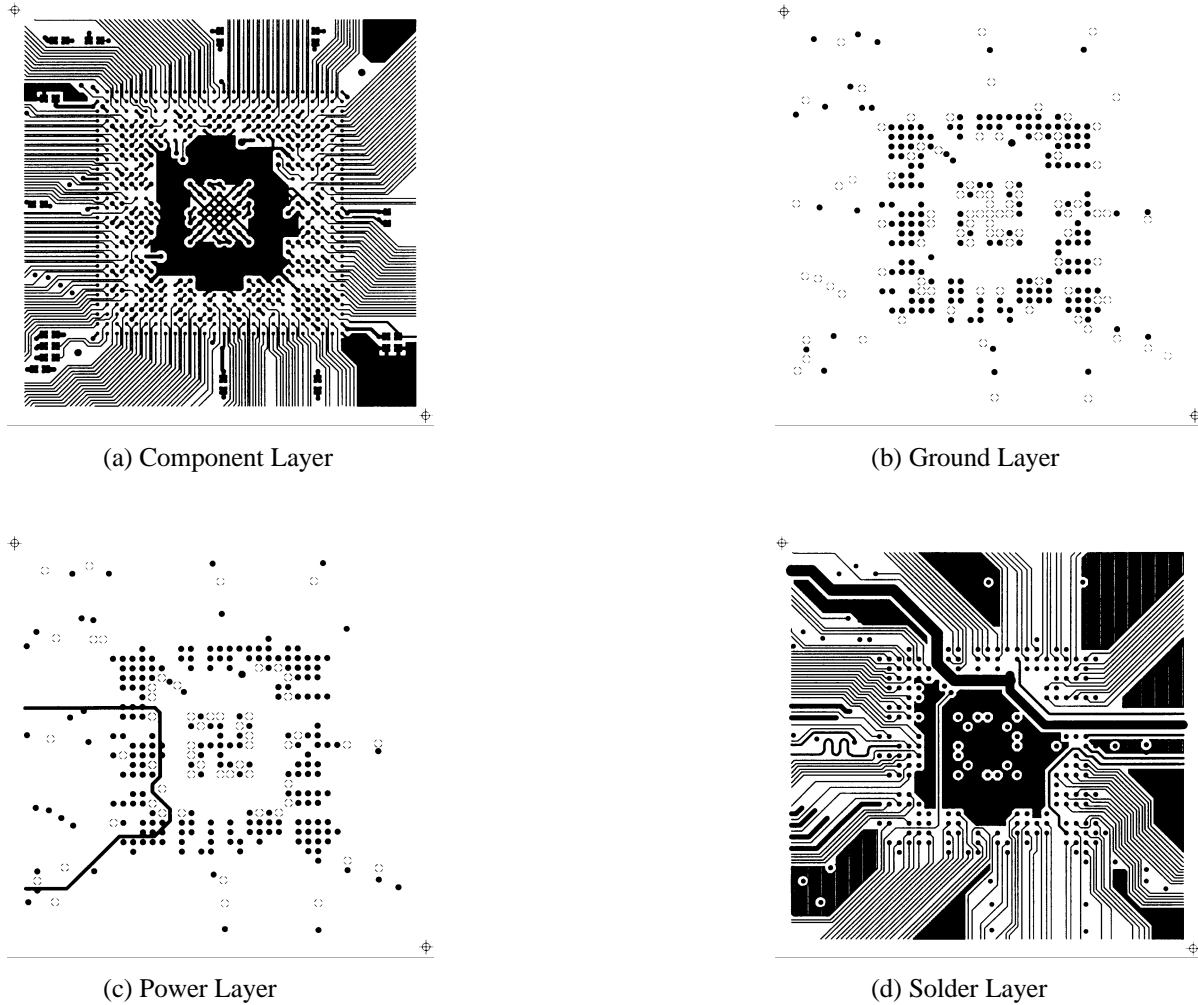

Figure 2-18. VT82C694X Power and Ground Layout
This section shows the recommended layout of the power plane and the ground plane on each layer for the two VIA BGA chips (VT82C694X and VT82C686A). Appropriate power and ground distributions for component, ground, power and solder layers can provide a better power and ground circuit to the chip. Two examples of power and ground layout and signal routings for both VT82C694X and VT82C686A are shown in Figures 2-18 and 2-19 respectively.
1. In Figure 2-18 (b) and (c), a black round dot represents a via with no connection to the specified layer and a white round dot represents a via with a connection to the specified layer. For example, the white round dots in Figure 2-18 (b) are ground connection vias and the white round dots in Figure 2-18 (c) can be VDDQ or VCC3 connection vias.
2. The square-like rail in the center area of the VT82C694X chip on the component layer in Figure 2-18 (a) connects to ground. The center square-like block representing an unused routing area connects to ground in Figure 2-18 (d).
4. The left area surrounded by the isolation (black line) is the AGP VDDQ power plane in Figure 2-18 (c).